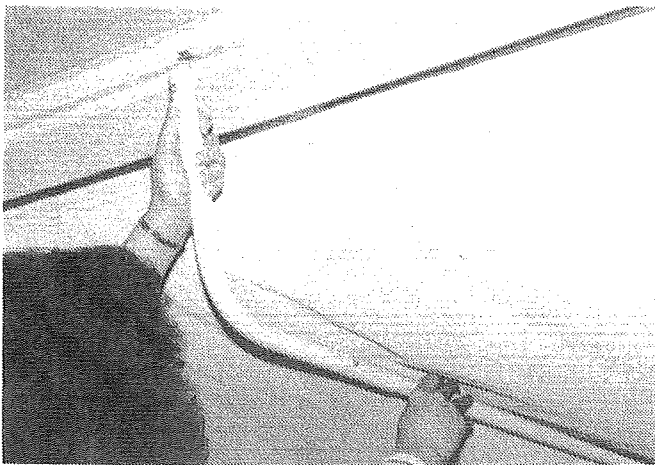

FIGURE 33
2. To completely support the tent enclosure over the bed (front and rear), attach the bed bow support by inserting the straight end into the bed bow. Insert the opposite end of the bed bow support into the metal roof retainer. See Figures 33 and 34.